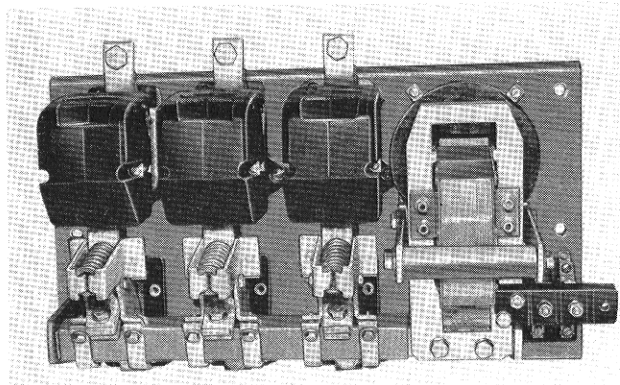

FIG. 1. Type NF-530 Front Connected Contactor
**Electrical Interlocks.** The Type NF Size 5 Contactor will accommodate a total of three type L-60 electrical interlocks. Two such interlocks are shown mounted on the contactor pictured in Figure 1. The interlocks may be converted from normally-closed to normally-open circuit action or vice versa without adding parts. Instruction Leaflet I.L.-15829.